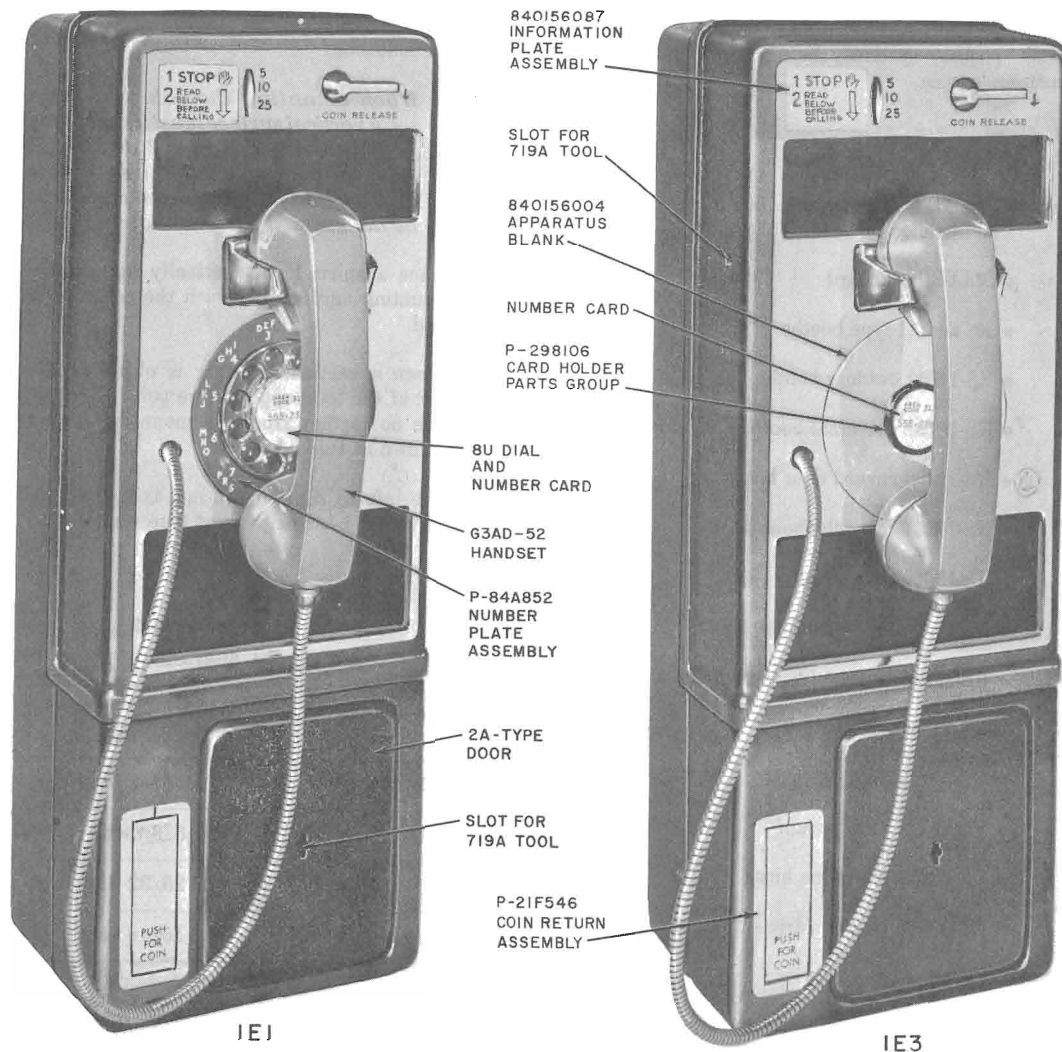

Fig. 1—1E-Type Coin Telephone Sets
2.01 The 1E-type coin telephone set (Fig. 1) can be installed in/on the following: